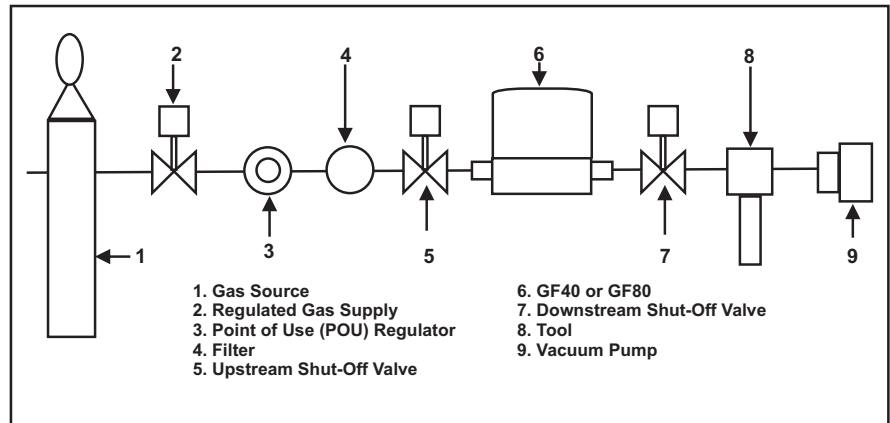

Figure 2-1 Typical Gas Supply Arrangement
Typical gas supply arrangements are shown in Figure 2-1. GF40s/GF80s/GF81s are often arranged inside a gas panel. Configure standard configurations ("SAs") or "blanks" for a variety of pure gases and mixtures. As a result, MultiFlo technology enables the user to reduce unique inventory requirements.
For additional safety, it is recommended to close the two valves between the charged gas line and the GF40/GF80/GF81 Series to be installed. See Figures 2-1 for more details.
3. Refer to Figure 2-1. Open the upstream shut-off valve (5) and close the downstream shut-off valve (7). This eliminates a pressure drop across the GF40/GF80/GF81 Series and subsequent leakage from the PID control valve inside the GF40/GF80/GF81 Series.
5. Refer to Figure 2-1. Close the upstream shut-off valve (5) to prevent any pressure effects from the regulator (3).